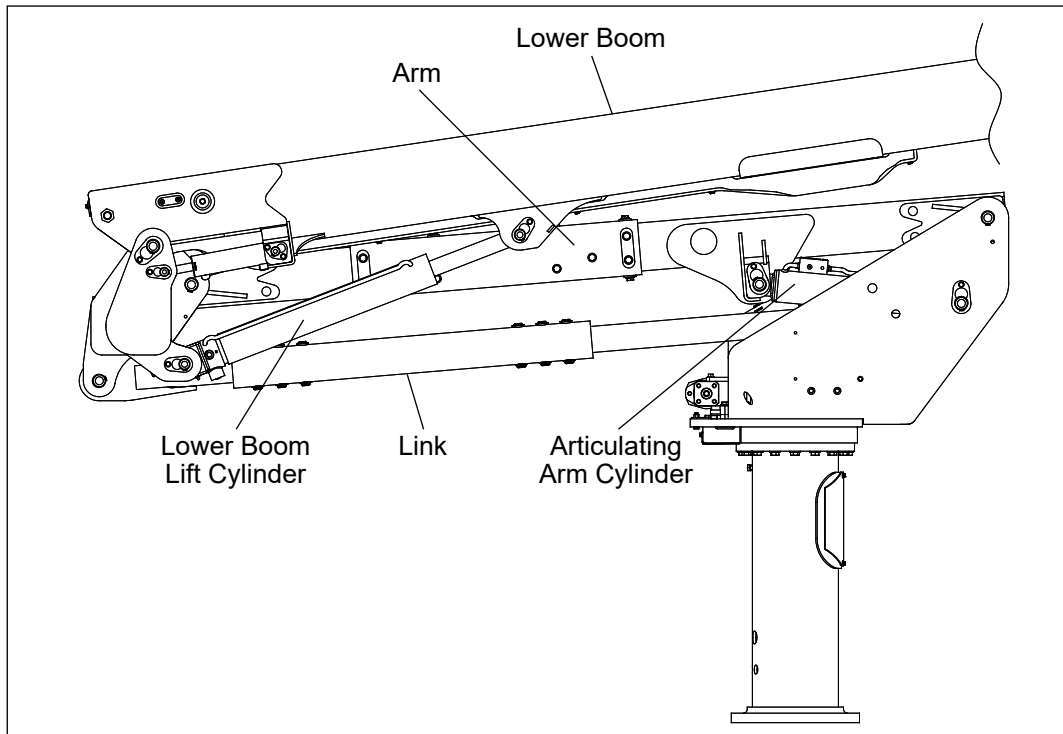

Figure 1 — Locate Lift Cylinder
3. Locate the lower boom lift cylinder (refer to Figure 1) and position yourself to inspect the feeder tube.